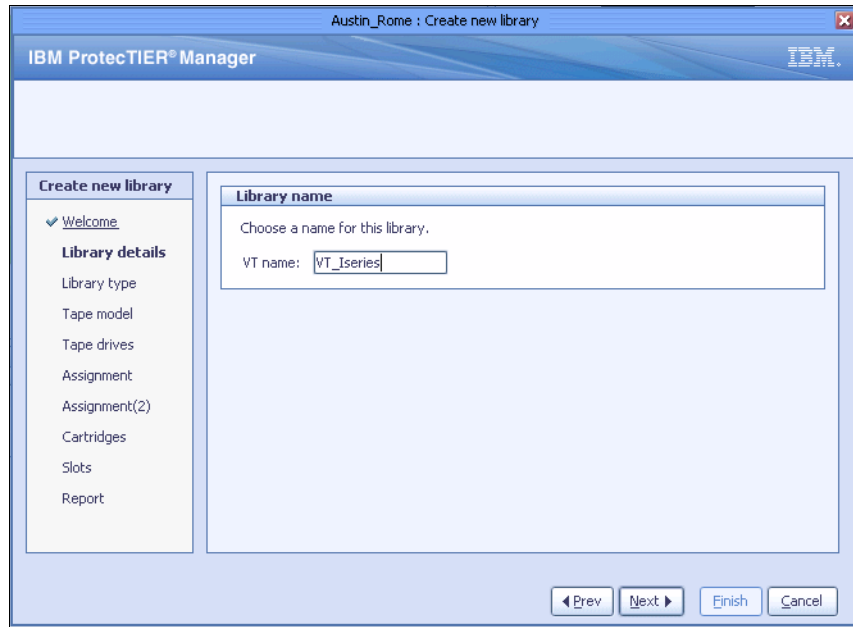

Figure 6-30 Library details menu
2. Click **Next** on the Welcome window. On the Library name window, insert the name of the new VTL (Figure 6-30).